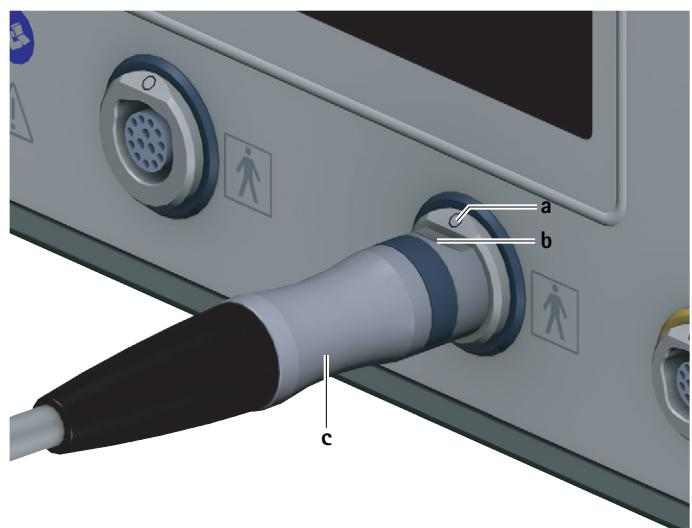

Fig. 3 Connecting the motor cable
- ▶ Position connector for control unit **c** on the motor cable so that marking **b** on the connector is aligned with marking **a** on the connection socket for applied parts **7**, see Fig. 3.
- Unplug the motor cable on the connector for control unit **c** from the connection socket for applied parts **7**, see Fig. 3.